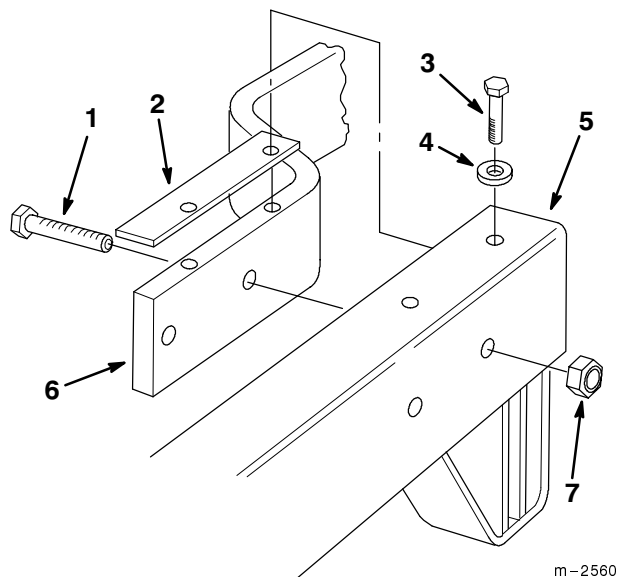

Figure 3
1. Attach the carrier frame to the traction unit frame with the four 3/8 in. x 1-3/4 in. (44 mm) cap screws and locknuts. Note that the locknuts must be on the outside of the carrier frame. Leave the locknuts loose to allow movement between the carrier and traction unit frames (Fig. 3).
2. Install the shims between the carrier frame and traction unit frame. Align the holes in the shims with the top holes in the traction unit and carrier frames (Fig. 3).
3. Install the four flange bolts (3/8 in. x 7/8 in. (22 mm)) with flat washers through the carrier frame and shims, and into the threaded holes in the top of the traction unit frame. Torque the flange bolts to 27-33 ft-lb (37-45 N•m) (Fig. 3).
4. Torque the four cap screws (3/8 in. x 1-3/4 in. (44 mm)) and locknuts to 27-33 ft-lb (37-45 N•m) (Fig. 3).